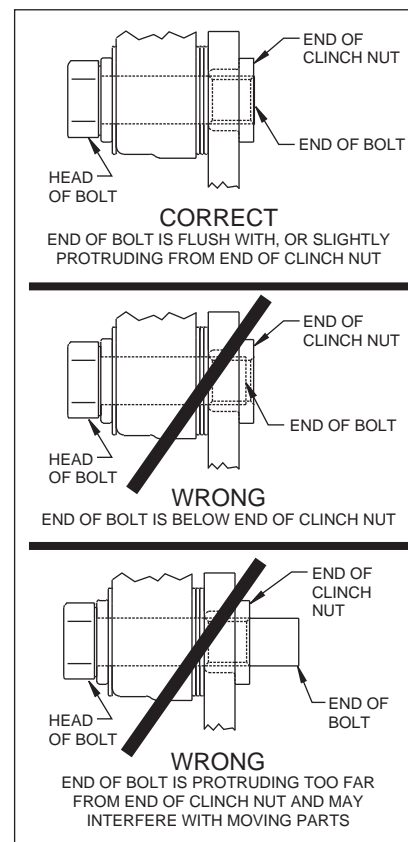

Figure 4. Clinch Nut Engagement Diagram
- Install the dust cap (12) onto the hub (4). Friction created by the o-ring (13) on the dust cap (12) keeps it from unscrewing. The O.D. of the existing spindle washer may be larger than the I.D. of the dust cap (12) not allowing it to seat against the hub face. Some grinding on the washer O.D. may be necessary to clear the I.D. of the dust cap (12).
- **NOTE:** Please reference the caution statement at the beginning of the assembly instructions. Mount the caliper (14) onto the caliper bracket (1) using washers (15), bolts (16) and caliper spacer (17). Finger tighten. View the rotor (8) through the top opening of the caliper (14). The rotor (8) should be aligned in the center of the caliper (14). If not, adjust the caliper (14) by using 0.032 inch thick shims (18) placed between the caliper mounting bracket (1) and the caliper spacer (17). Use as many shims as necessary to obtain the correct alignment. Finger tighten. **NOTE:** The end of the bolt must be flush with or slightly protruding from the head of the clinch nut. See Figure 4. Place spare shims (18) between washer and caliper mounting ear to achieve the proper mounting fastener configuration. Always use the same amount of shims on both the top and bottom caliper mounting bolts (16). Apply red *Loctite*® 271 to bolt threads (16) and torque to 40 ft-lb. Caliper mount bolts may be safety wired for additional security.
- Install the disc brake pads (19) and secure using cotter pin (20).